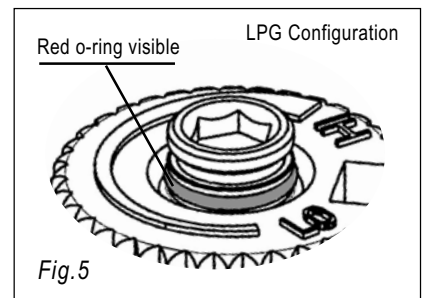

Fig. 5
- 10) Verify that if the conversion is from NG to LPG, the screw must be reassembled with the red o-ring visible (Fig. 5).